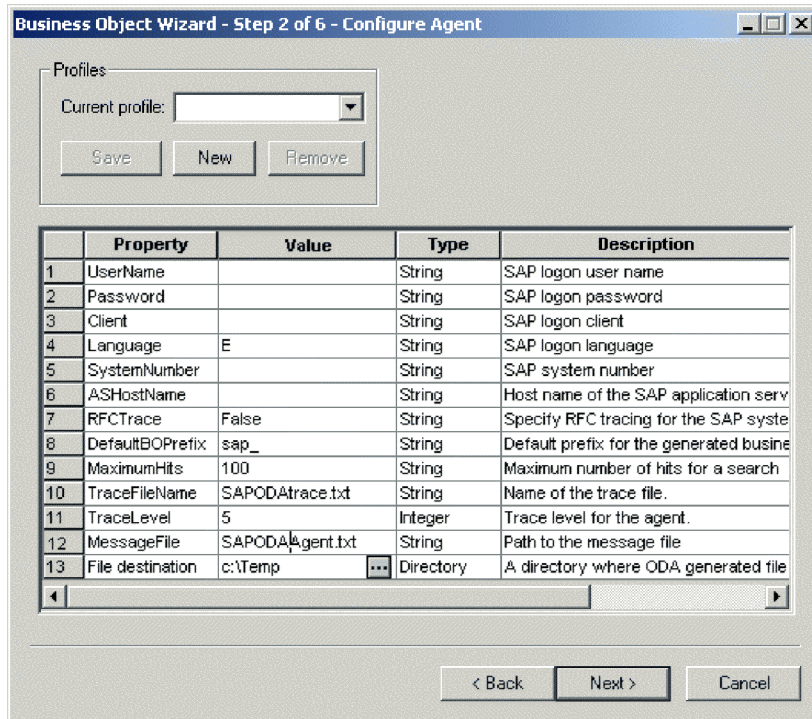

Figure 35. Configuring Agent Properties
The first time Business Object Designer communicates with SAPODA, it prompts you to enter a set of initialization properties as shown in Figure 35. You can save these properties in a named profile so that you do not need to re-enter them each time you use SAPODA. For information on specifying an ODA profile, see the *Business Object Development Guide*.
The prefix is text prepended to the name of the business object to make it unique. If you are satisfied with the value you entered for the DefaultBOPrefix property in the Configure Agent window (Figure 35 on page 298), you do not need to change the value here.
- Prefix —If you are satisfied with the value you entered for the DefaultBOPrefix property in the Configure Agent window (Figure 35 on page 298), you do not need to change the value here.